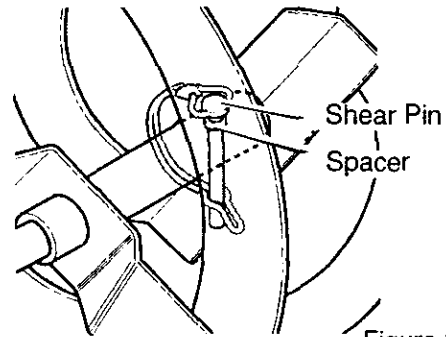

Figure 39
3. Align the hole in the auger with the hole in the auger shaft. Install the new **shear pin** and **spacer**. See Figure 39.